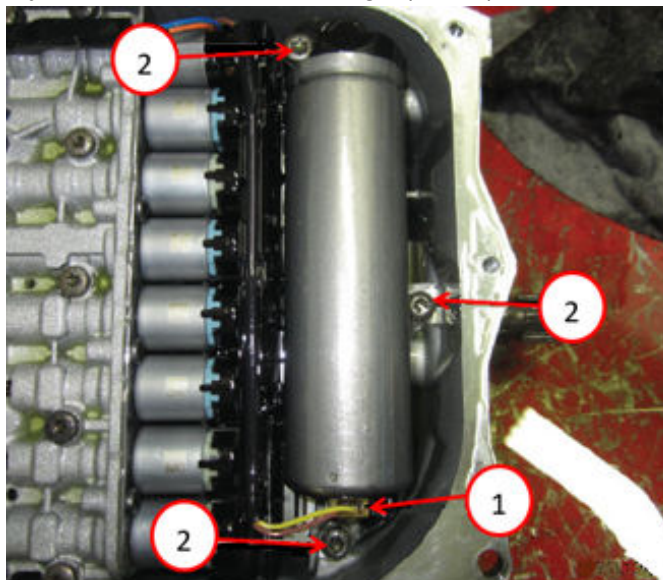

Fig. 8
11. If equipped, disconnect the Hydraulic Impulse Oil Storage (H.I.S.) connector Fig. 8.